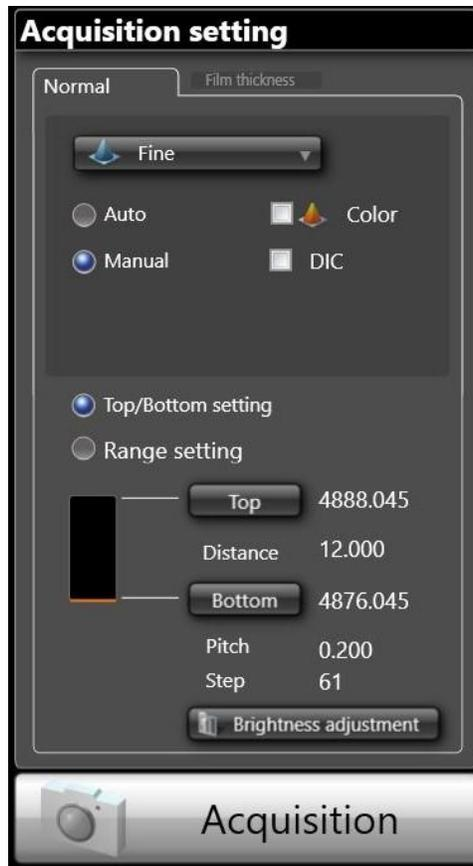

Figure 15. Acquisition Settings
13. In the acquisition settings, select "Manual." Increase the focus until the live image turns completely black. From the "Top/Bottom Setting," select "Top," then decrease the focus until the image is again completely black, and select "Bottom." Set the scan speed. "Fine" is used as an example in Figure 15.